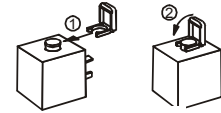

Fig 4
- Press coil housing down firmly, secure (1) and close (2) the coil retainer (see Fig 4).